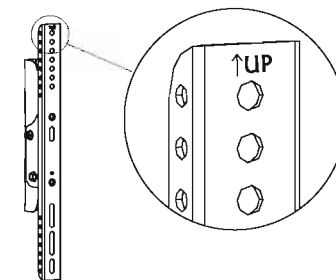

Fig. 1
For correct installing, make sure that hook of every bracket must facing down. Use selected bolts, spacers and washers for installing bracket at the back of display. Adjust two brackets to equal heights and level. Once aligned, tightly secure the bolts. Note: the "UP" side on the top. As shown in Fig. 1.
1. Some displays have vertical backs. No spacer is required. Install the bracket directly to the back of display by using bolts and square washers provided. As shown in Fig. 1 a.
2. Some displays have curved backs with recessed mounting lands(Fig.a). It will require the use of spacer. For this display, install a spacer(K) between display and the bracket. As shown in Fig 1 b.